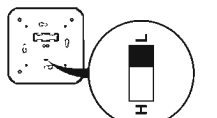

Figure 2
- Adjust Winter/Summer switch — Set to High (H) for brighter illumination in summer when charging hours are longer, set to Low (L) in winter to conserve power (Figure 2).